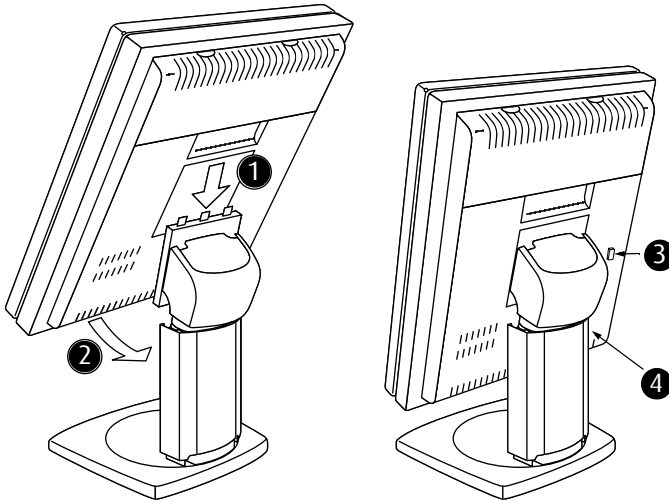

Figure 17: Attaching the panel to the display stand
3. Hook the top gaps in the rear of the panel over the top anchors of the stand attachment plate (1). see figure 17.
4. Push the bottom of the panel firmly towards the stand so that the bottom anchors clip in the bottom gaps (2).